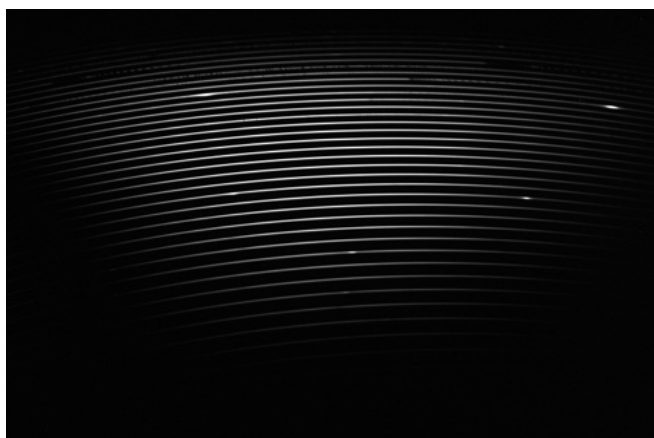

Figure 1.1: The 2D image out of the eShel III (spectrum of chi Oph). Each order (horizontal line) is a portion of the spectrum.
The spectroscope itself will produce a 2D image, with all the orders (see fig. 1.1). You'll need to process this data to get a useful spectrum, usually shown as a 1D profile.
- Now, the beam is spread-out in two directions: the main (X) direction by the Echelle grating, and the second (Y) direction by the prism. For a given wavelength, the beam is still parallel, but from one wavelength to the other, the beam direction differs.
- The whole beam is then sent to the Objective Lens (the new eShel III element) to focus all the beams to the sensor, making the 2D image (see fig. 1.1).